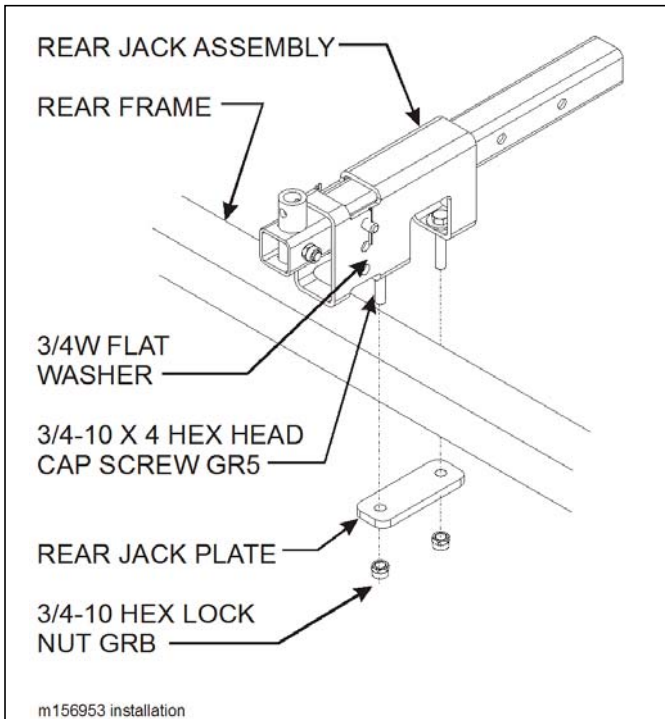

Figure 3-36: Rear Jack Installation
1. Slide rear jack assembly over rear frame of the VT Plus near the center of the frame (See Figure 3-36.)